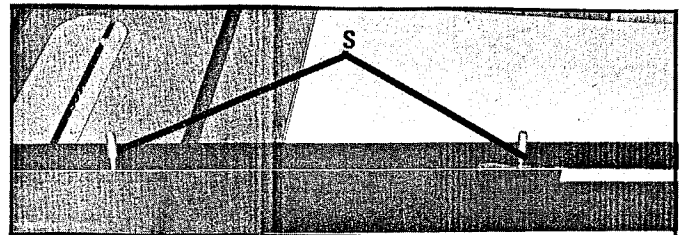

Fig. 29
12. The short fine threads of studs (S) are to be threaded into the two hex nuts inside the channel of the guide rail, as shown in Fig. 29.